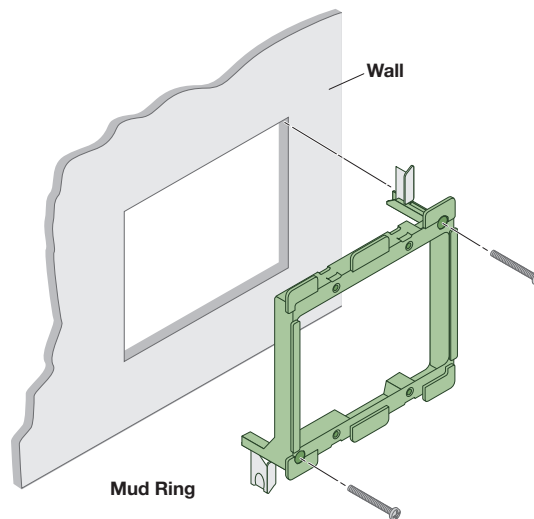

Figure 5. Installing the Mud Ring
2. Insert the mud ring into the opening, rotate and secure the locking arms with the supplied screws as shown in figure 5.